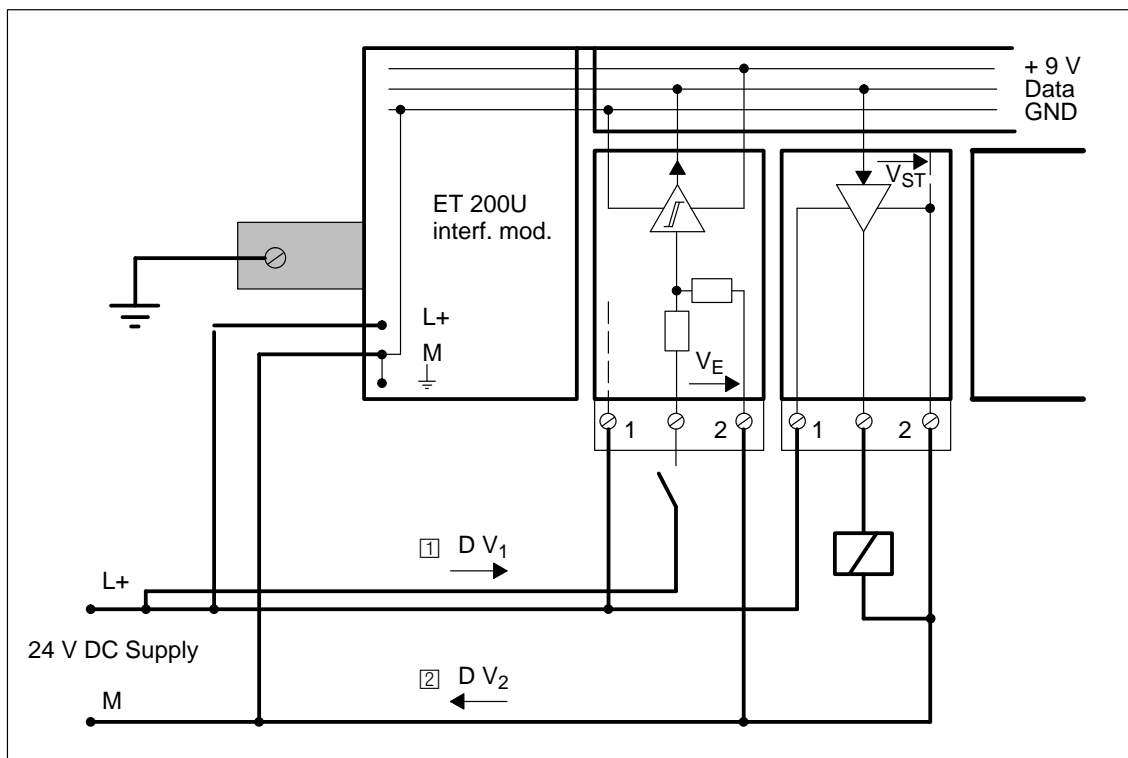

Figure 3-21 Simplified Illustration of a Configuration with Nonfloating I/O Modules
Nonfloating I/O modules work according to the following principle (see Figure 3-21):
Reference potential is terminal 2 (M) of the terminal block. A voltage drop  $\Delta V_2$  on line ② increases the chassis ground of the output driver and in this way lowers the resulting control voltage  $V_{ST}$  (see Figure 3-21).
For a nonfloating configuration, make sure that the voltage drop on lines ① and ② never exceeds 1 V. Otherwise the reference potentials shift and the modules can malfunction (see Figure 3-21).